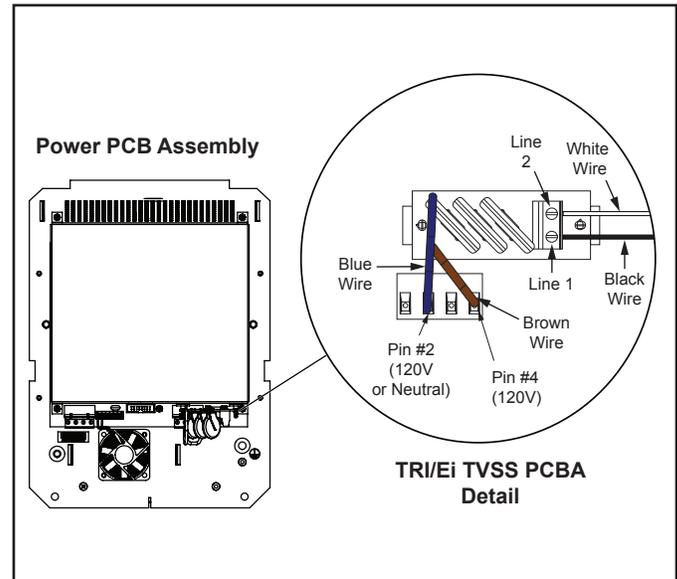

Figure 8. Power PCB with TRI/Ei TVSS PCBA
1. Wire TRI/Ei TVSS PCB Assembly to Green 4-pin connector (see Figure 8).
2. Wire incoming Main Power to the TRI/Ei TVSS PCB Assembly (see Figure 8).